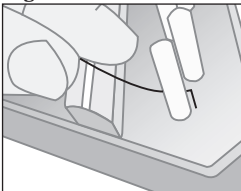

Figure 4
6. Make sure the end is pointing towards the ground. (Fig. 4)